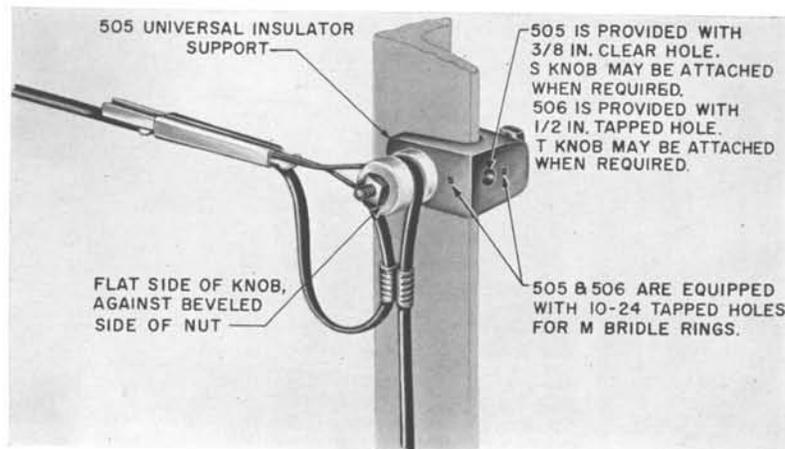

FIG. 8—FIRST ATTACHMENT—NO. 505 OR 506 UNIVERSAL INSULATOR SUPPORT
4.02 The Nos. 505 and 506 Universal insulator supports may be used as first attachments for drop and block wires on structural steel framework, provided that the support is so placed that it will be pulled against the structural steel member (see Fig. 8). The setscrew should be securely tightened.